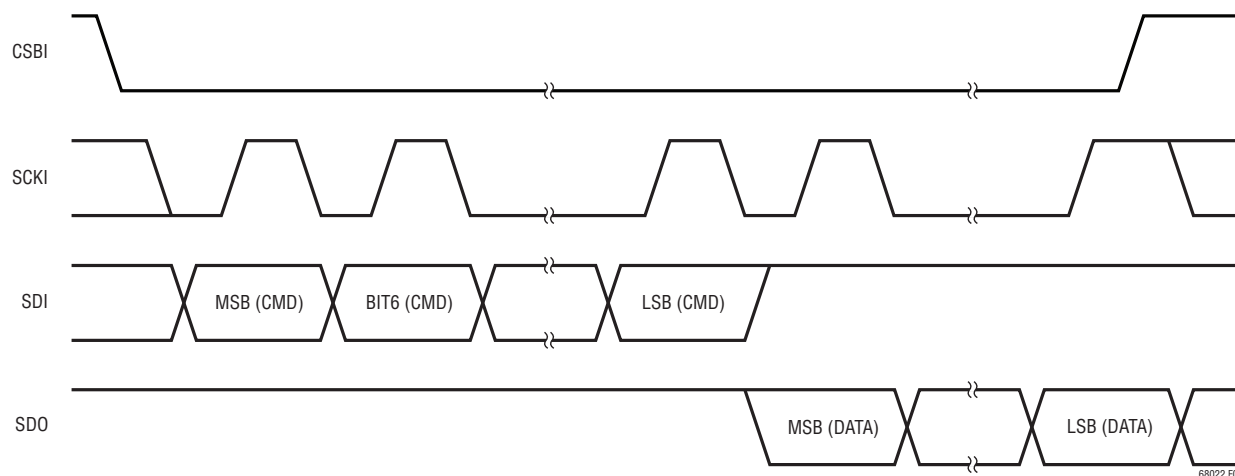

Figure 7. Transmission Format (Read)
**Data Transfers:** Every byte consists of 8 bits. Bytes are transferred with the most significant bit (MSB) first. On a write, the data value on SDI is latched into the device on the rising edge of SCKI (Figure 6). Similarly, on a read, the data value output on SDO is valid during the rising edge of SCKI and transitions on the falling edge of SCKI (Figure 7).